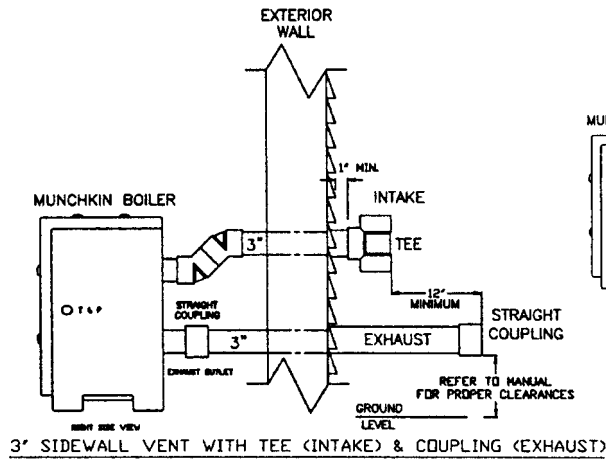

FIGURE 1
- 11) The vent intake and exhaust must be properly cleaned and glued for a pressure tight joint. Several methods for venting the Munchkin can be found in Figures 1 thru 6. Use the following layout as a guideline; certain site conditions such as multiple roof lines/pitches may require venting modifications (consult factory). The air inlet must be a minimum of 1' vertically above the maximum snow level or 24" which ever is greater. The air inlet must also be a minimum of 10' horizontally from the roof, and terminated with a tee. The exhaust must be a minimum of 24" above the air inlet opening and terminated with a coupling. It is very important that there are no other vents, chimneys or air inlets in any direction for at least 4'.